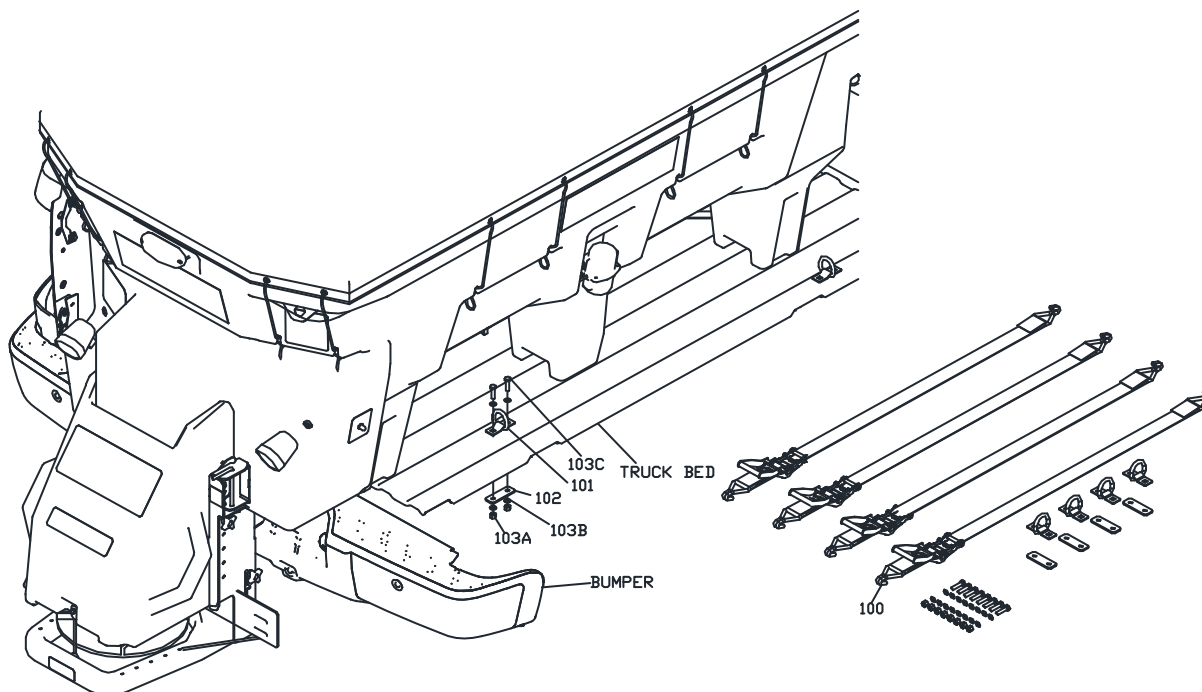

Figure 4. Tie-Down D-Ring Installation
2. Using 3/8"-16 X 1-1/2" Hex Head Cap Screws (103C), 3/8"-16 Nylon Lock Nuts (103A), 3/8" Flat Washers (103B), and Bedmount Plates (102), mount D-Rings to truck in four locations pictured in Figure 4 & 5. Dimensions are approximate